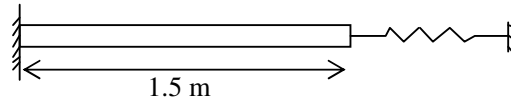

Fig. 2
6. Determine the two lowest natural frequencies approximately for the torsional system shown in Fig. 2 using Rayleigh-Ritz method. Take cubic polynomials as trial functions. Take rigidity modulus  $G = 80 \times 10^9 \text{ N/m}^2$ , Polar moment of inertia,  $J = 1 \times 10^{-5} \text{ m}^4$  and torsional stiffness of the spring  $k_t = 4 \times 10^6 \text{ N-m/rad}$ . [16]